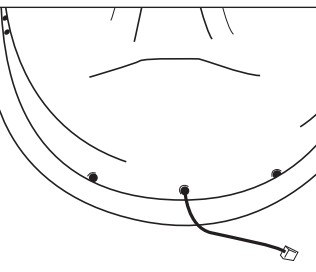

Figure 10
- Thread the battery assembly wire through the middle hole (Figure 10).